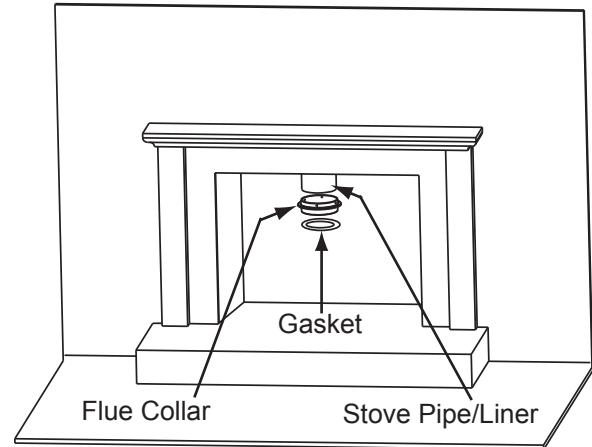

Figure 41.2
1. There are 4 pre-drilled holes in the flue collar 90 degrees apart. Attach the flue collar to the stove pipe/liner. If the seal is questionable use stove mastic **Figure 41.2**.